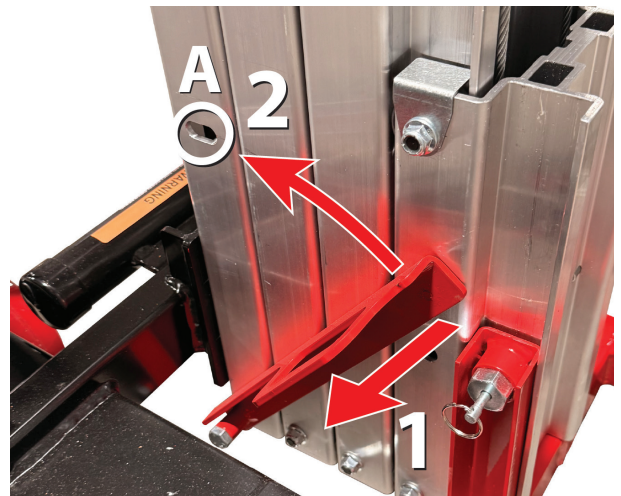

Figure 6-7: Mast Lock Arm
3. Slightly lower the lifting fork carriage to relieve pressure on the mast locking arm pin. Remove the mast locking arm from the fork carriage by pulling the arm out from its mounting point (1) and rotating it to the rear of the mast (2). Seat the mast locking arm pin into the mounting hole (A) on the rear mast. See Figure 6-7.